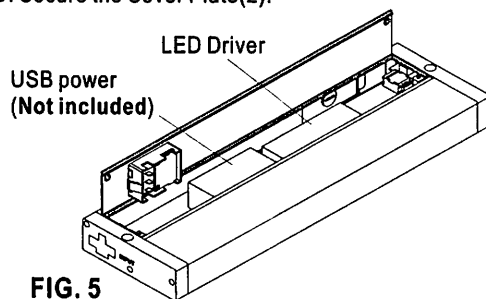
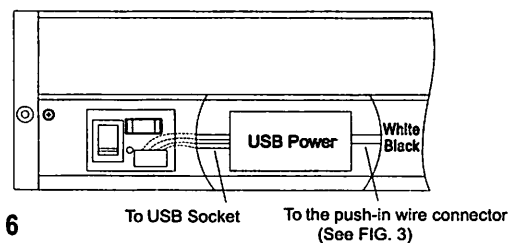

FIG. 5
FIG. 6
- Remove Cover Plate Screw (8) and open Cover Plate(2).
- Cement the USB Power at the fixture with double faced adhesive tape. See FIG. 5 and FIG. 6.